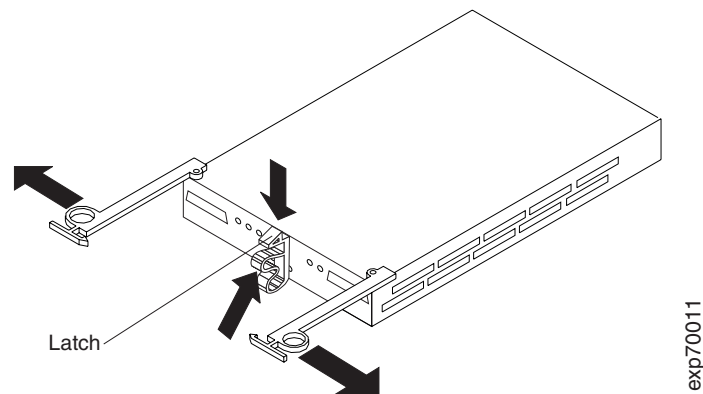

Figure 59. Removing the failed ESM
5. Be sure the Fault indicator LED is lit; then, push down on the ESM latch as shown in Figure 59.